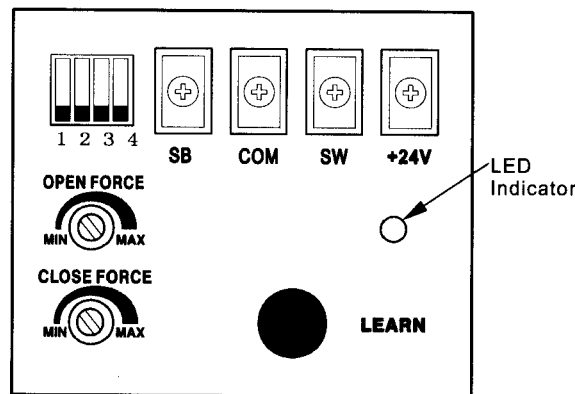

Fig 11
- Press the Green Coloured “Run” Button located on the Rear Cover of the AGDO. (Fig.11)
- c. LED Indicator (Fig 11) will glow solid once the AGDO reaches the Close Limit position.
- c. LED Indicator (Fig 11) will slow flash once the AGDO reaches the Open Limit position.
- Locate the Learn button (Fig 11) found on the rear cover of the AGDO.
- With the garage door in the **fully closed** position - press the green Run button (Fig.11) so that the garage door begins to open.
- As the garage door is opening - slowly turn the Open Force (green) adjustment pin (Fig.11) in an anti-clockwise direction until the garage door stops.
- Press the green “Run” button (Fig.11) so that the garage door begins to open.
- With the garage door in the **fully open** position, press the Run button (Fig.11) so that the garage door begins to close.
- As the garage door is closing - slowly turn the Close Force (red) adjustment pin (Fig.11) in an anti-clockwise direction until the garage door stops and begins to reverse direction.
- If the AGDO stops but does not reverse then turn the Close Force adjustment pin 5 degrees in an anti-clockwise direction. (Fig 11)
- ii. momentarily press “Learn” button (Fig.11) – LED Indicator will glow solid
- Select Dips 1 & 2 to the “ON” position. (Fig.11)
- The Dip Switches located within the back cover of the AGDO (Fig.11) enable or disable specific functionality.
- The Learn button (Fig 11) is located on the rear cover of the AGDO and serves to initiate the functions as described in the following table;
- The LED Indicator (Fig 11) is located on the rear cover of the AGDO and serves to provide visual indication of functionality sequences as described in the following table;
- 4 Output Terminals (Fig.11) are provided within the back cover of the AGDO to support the connection of the following accessories;